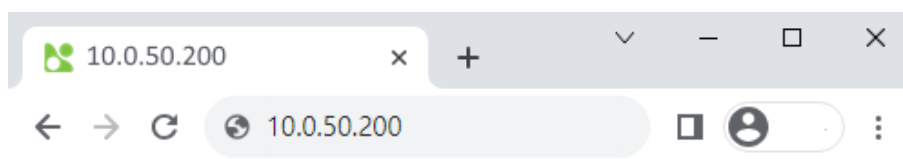

Figure 2.1. IP Address for the Web-based Setting
2. Type in the device's IP address on the device (e.g. <http://10.0.50.200>), as shown in Figure 2.1.